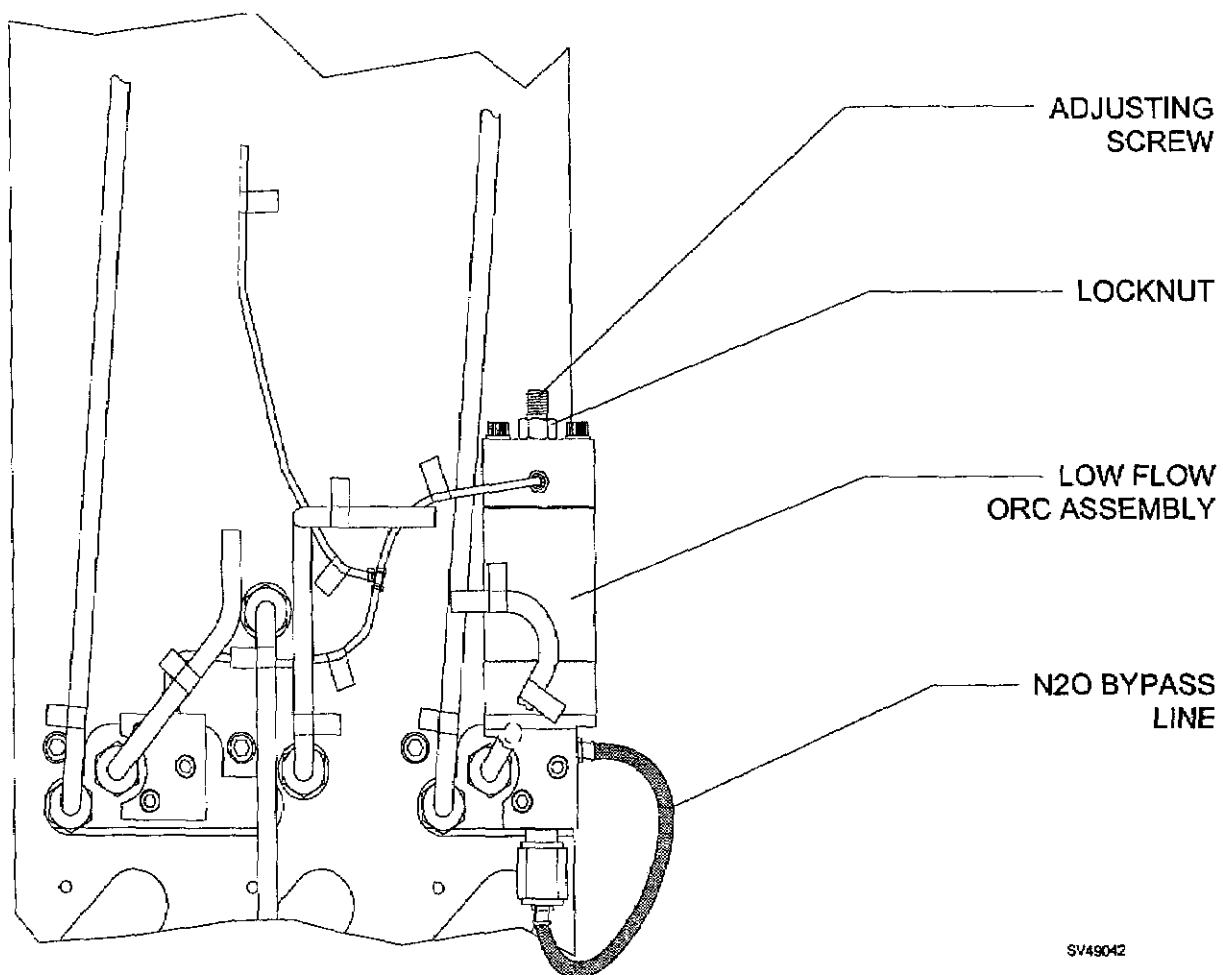

Figure 5-3: OXYGEN RATIO CONTROLLER ADJUSTMENT
- 5.3.4 Pinch the N₂O bypass line on the ORC. See Figure 5-3.